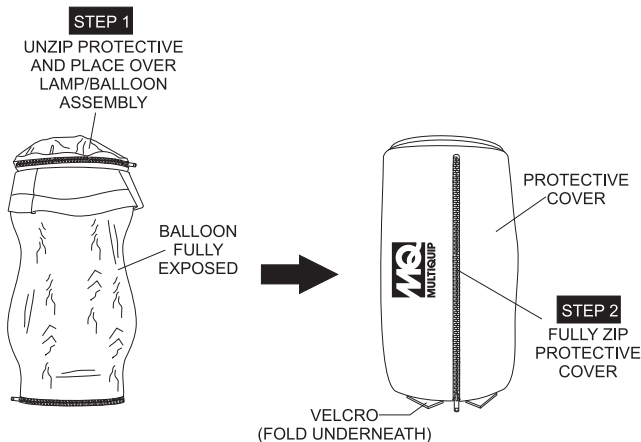

Figure 18. Covering the Lamp/Balloon Assembly
6. Unzip the protective cover as shown in Figure 18, and place cover over balloon/lamp assembly.
1. Expose the balloon (Figure 23) by pulling down on the velcro tabs and unzip the protective cover as shown in Figure 18. Next, fold the protective cover into itself and zip.